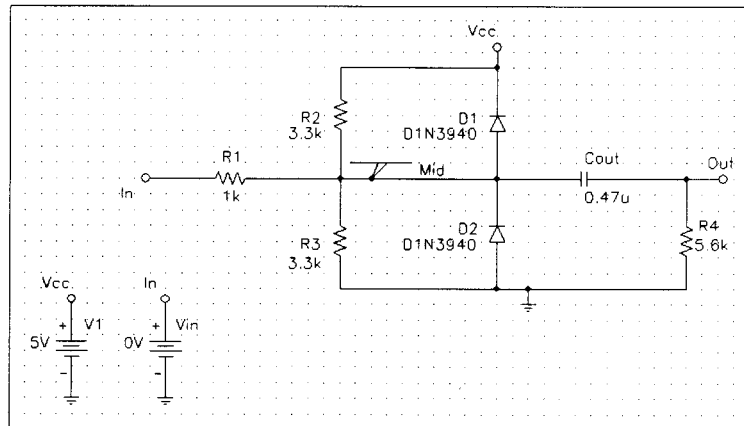

Figure 2-1 Diode Clipper Circuit
This section describes how to use MicroSim Schematics to enter the simple diode clipper circuit shown in Figure 2-1.
- If device names and values don't match the names shown in Figure 2-1, they can be changed later.
- 6 Continue connecting components until the circuit is wired as shown in Figure 2-1 on page 2-2.
- 4 Double-click on each bubble to label it as shown in Figure 2-1 on page 2-2.